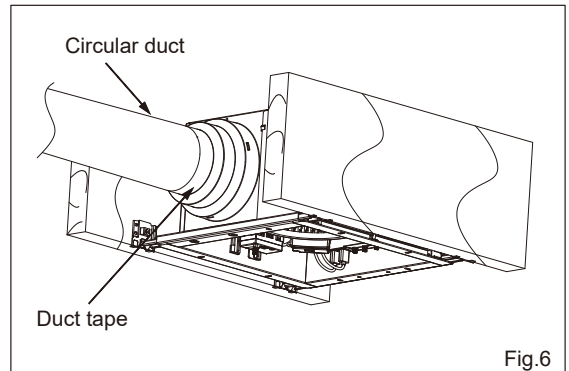

Fig.6
6. Install a circular duct and secure it with clamps or ties and seal it with mastic or approved duct tape. A 4", 5", or 6" circular duct is needed to connect to relevant part of adaptor. (Fig.6)